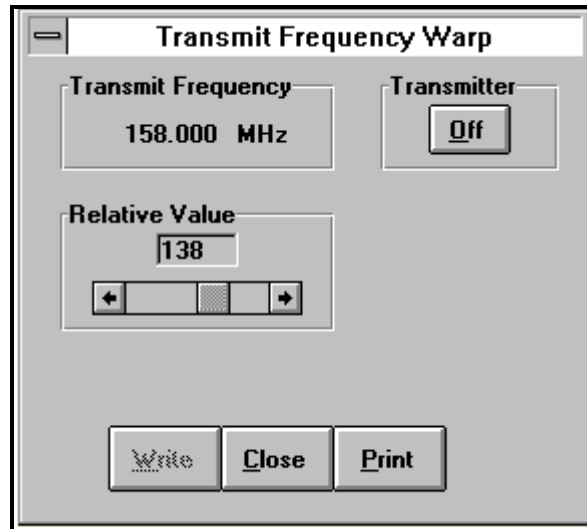

Figure 7.4 – Transmit Frequency Warp
1. Select “Transmit Frequency Warp” from the Service dropdown menu. The service adjustment window is shown in Figure 7.4.